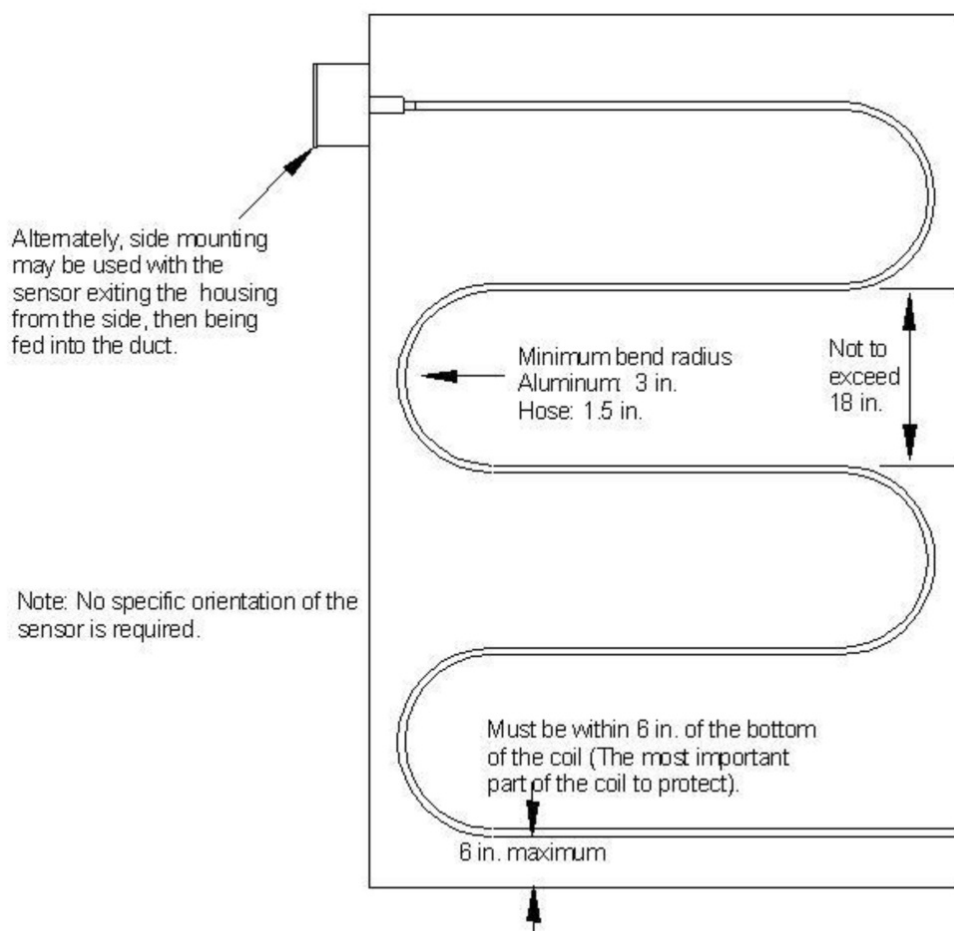

Figure 4 – Ideal Sensing Element Installation
4. When securing the sensing element, use one of the methods shown below in figure 4. Secure sensing element away from sharp or abrasive objects or surfaces. Vibration and sharp or abrasive objects can damage the element. For best coverage of the coil and operation of the device, use the method below. Other mounting arrangements may be used, however this may cause issues due to the stratification of air in the duct. The element should be attached to the panel or coil with the use of wire ties or mounting brackets. If there is any remaining length of the element that is not needed, it may be coiled into a loop and placed where convenient inside the duct.